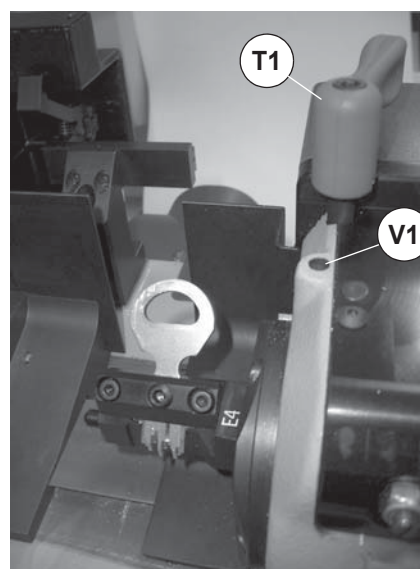

Fig. 47
- 2) Take the 'T' wrench (T4) from its seat and fit into the screw (V1), then loosen until the jaws are fully open. At the end of the operation do not remove the 'T' wrench from the screw (fig. 47).